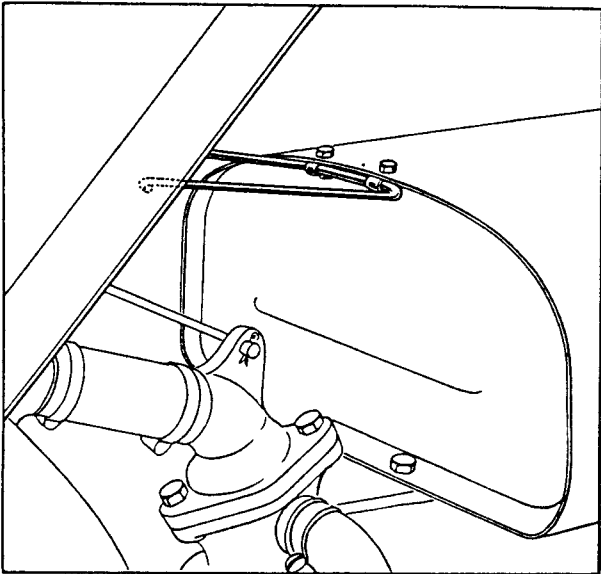

FIG. 4
**To Remove the Tank. Fig. 4.**